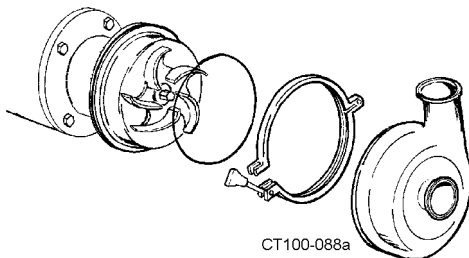

Figure 35 - Install Casing
18. Install the casing o-ring on the backplate and clamp the casing in place (Figure 35).